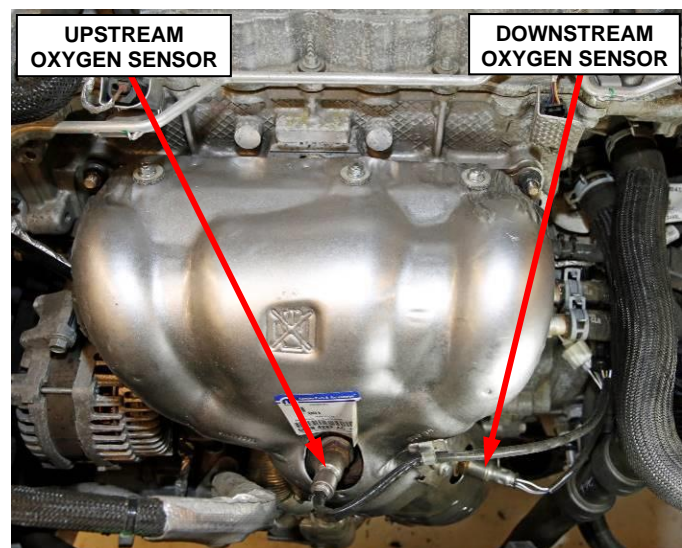

Figure 25 – Oxygen Sensors
39. Install the **NEW** upstream oxygen sensors with black connector and **NEW** downstream oxygen sensors with white connector to the mainverter. Tighten the oxygen sensors to **49** N·m (36 ft. lbs.) (Figure 25).